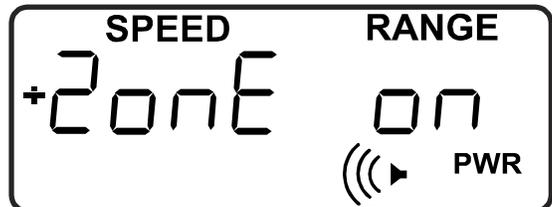

Figure 10
- Construction/School Zone Mode (Figure 10)